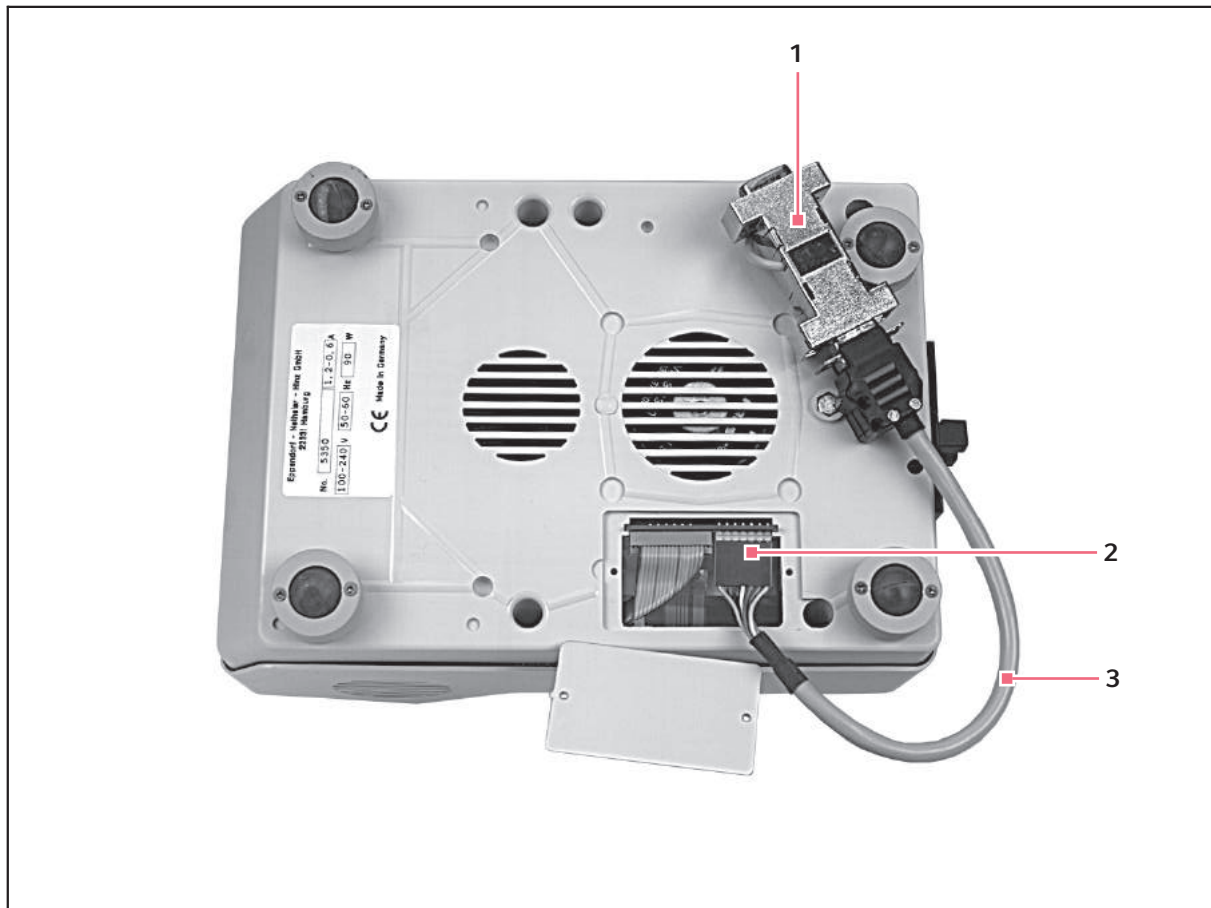

Fig. 7-2: Preparation of Thermomixer 5350 automatic temperature calibration
2. Insert the adapter cable for temperature adjustment 5350 in the pin bar of the starter PCB (see Fig. 7-2 on p. 43).